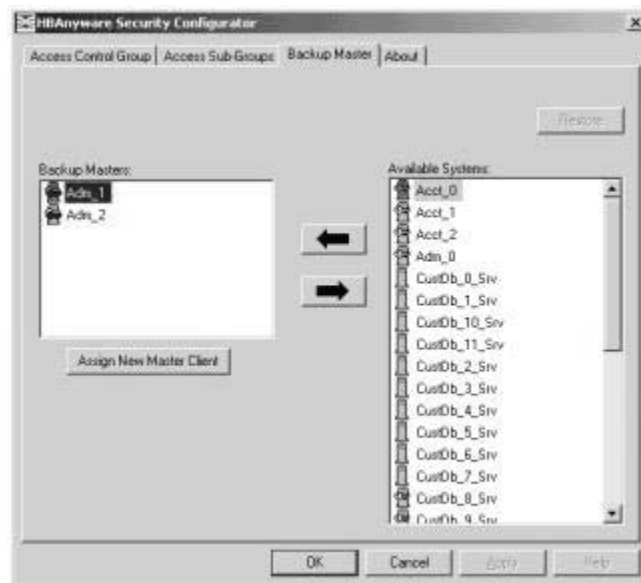

Figure 58: HBAAnyware Security Configurator, Backup Master Tab with Backup Masters
2. Click the **Backup Master** tab (see Figure 58)